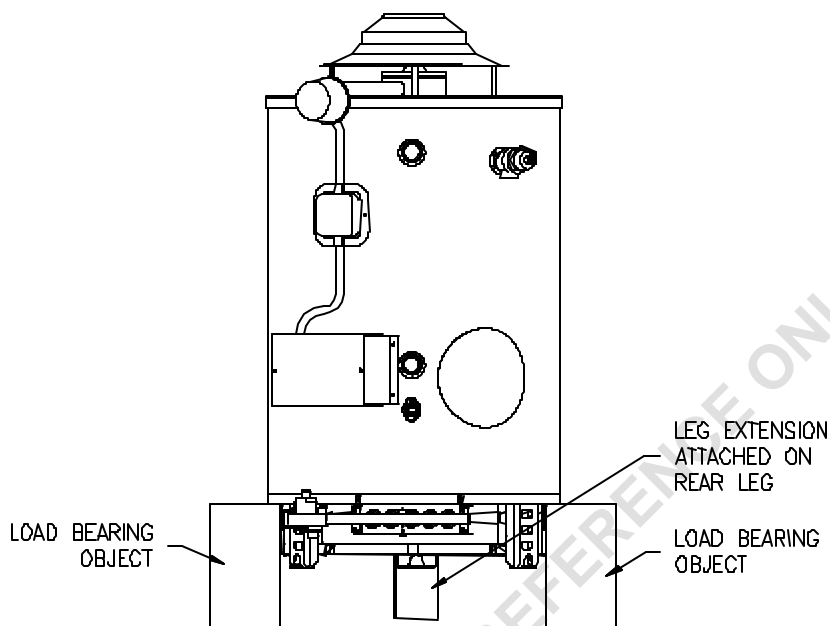

Figure 3
6. Repeat steps 1 through 5 for the remaining leg(s). Use two (2) or three (3) 12" high load-bearing objects for supporting the water heater when assembling the remaining leg extensions (**see Figure 3 & 4**).